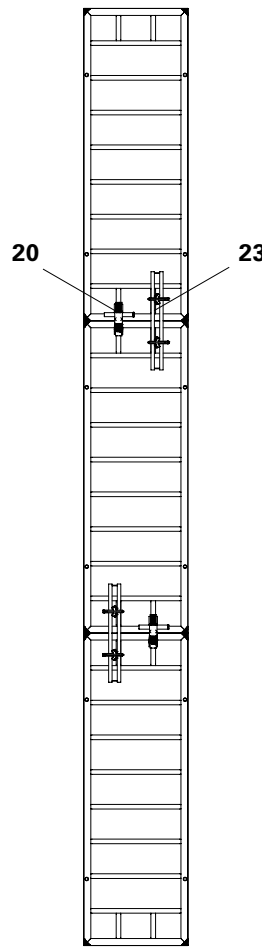

Fig. A14.03a
With extension heights > 5.40 m, the Alignment Coupler BFD (20) and Compensation Waler TAR 85 (23) are used on the panel joints. (Fig. A14.03a + A14.03b)